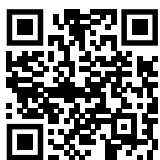

Fig. 153
- ▶ Open Liebherr SmartMonitoring Dashboard. (see Fig. 153)